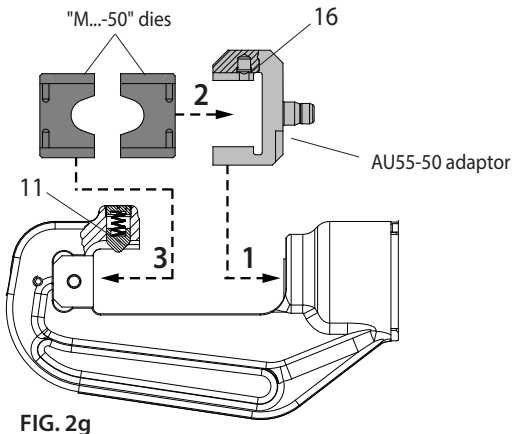
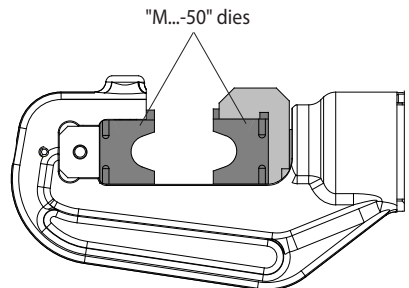

FIG. 2g
FIG. 2h
- Insert the AU55-50 adaptor into the seat of the ram (1) (see Fig. 2g).
- Insert one M...-50 type die into the adaptor AU55-50 (2) and one into the upper part of the head (3); the two dies will be held by pins (11 and 16).
- To disassemble them it will be sufficient to slip them from the head (see Fig. 2h).